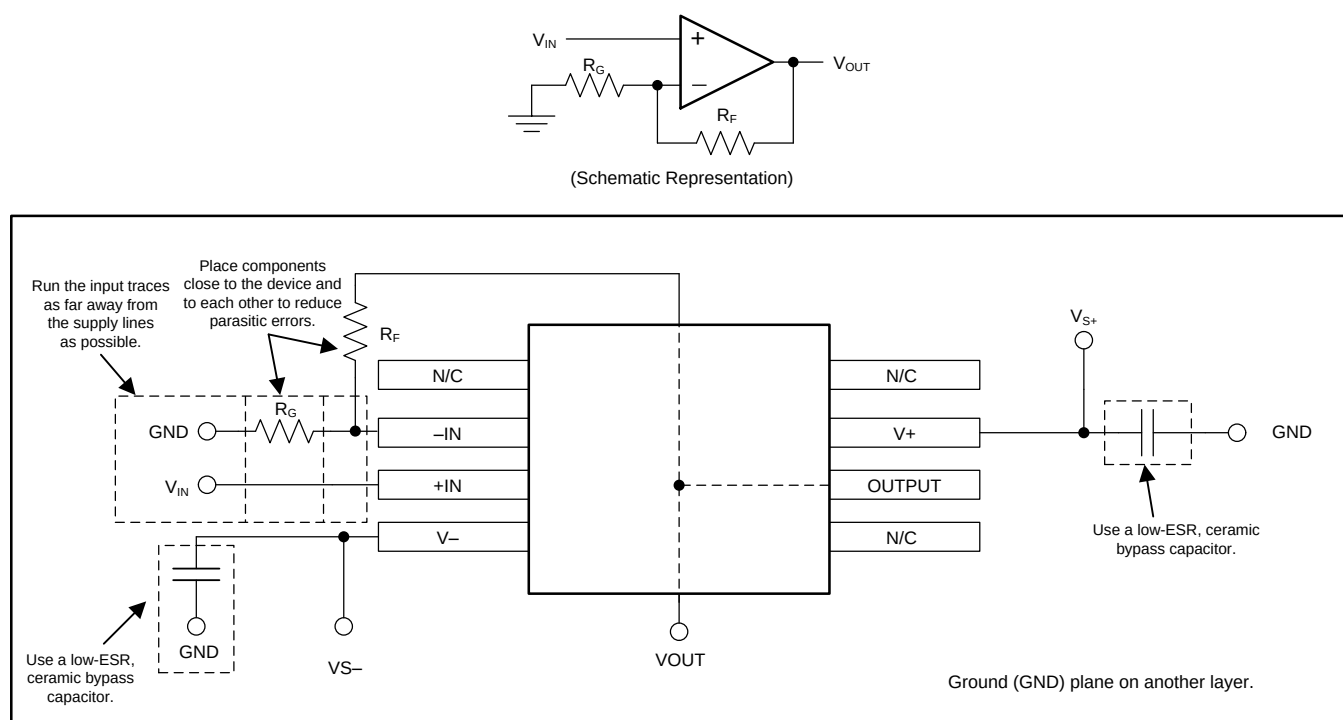

**Figure 20. Operational Amplifier Board Layout for Noninverting Configuration**
- Place the external components as close to the device as possible. Keep  $R_F$  and  $R_G$  close to the inverting input in order to minimize parasitic capacitance, as shown in Figure 20.